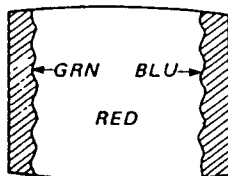

Fig. 3-2.
5. Move the deflection yoke back, and adjust the purity control so that **F** is in the center and **G** and **B** are at the sides, evenly. (Fig. 3-2.)